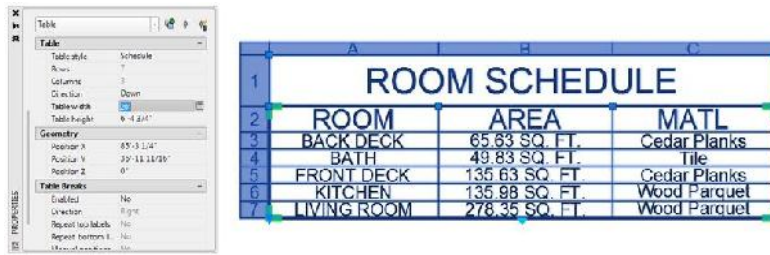

FIGURE 9.80: Adjusting the width of the ROOM SCHEDULE table
- 3. Change the Table Width property within the Table group to 20' (6 m), as shown in Figure 9.80.